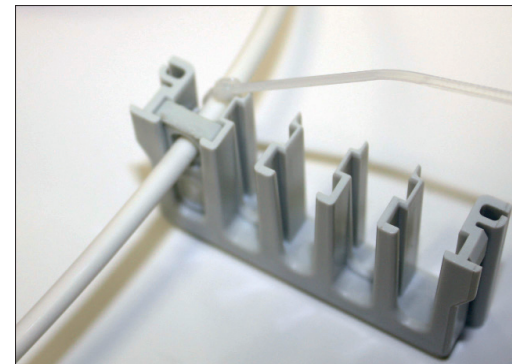

Fig.22
**Tip:** Start by placing used seal inserts in the lower row to fill it up first (**Fig. 22**), then place any unused seal inserts in the top row. If you do not use all 10 seal inserts, this approach makes it easier to install additional cables at a later time. If you have more than 10 floor cables, you can feed two additional cables directly into the splice area from the corresponding side.